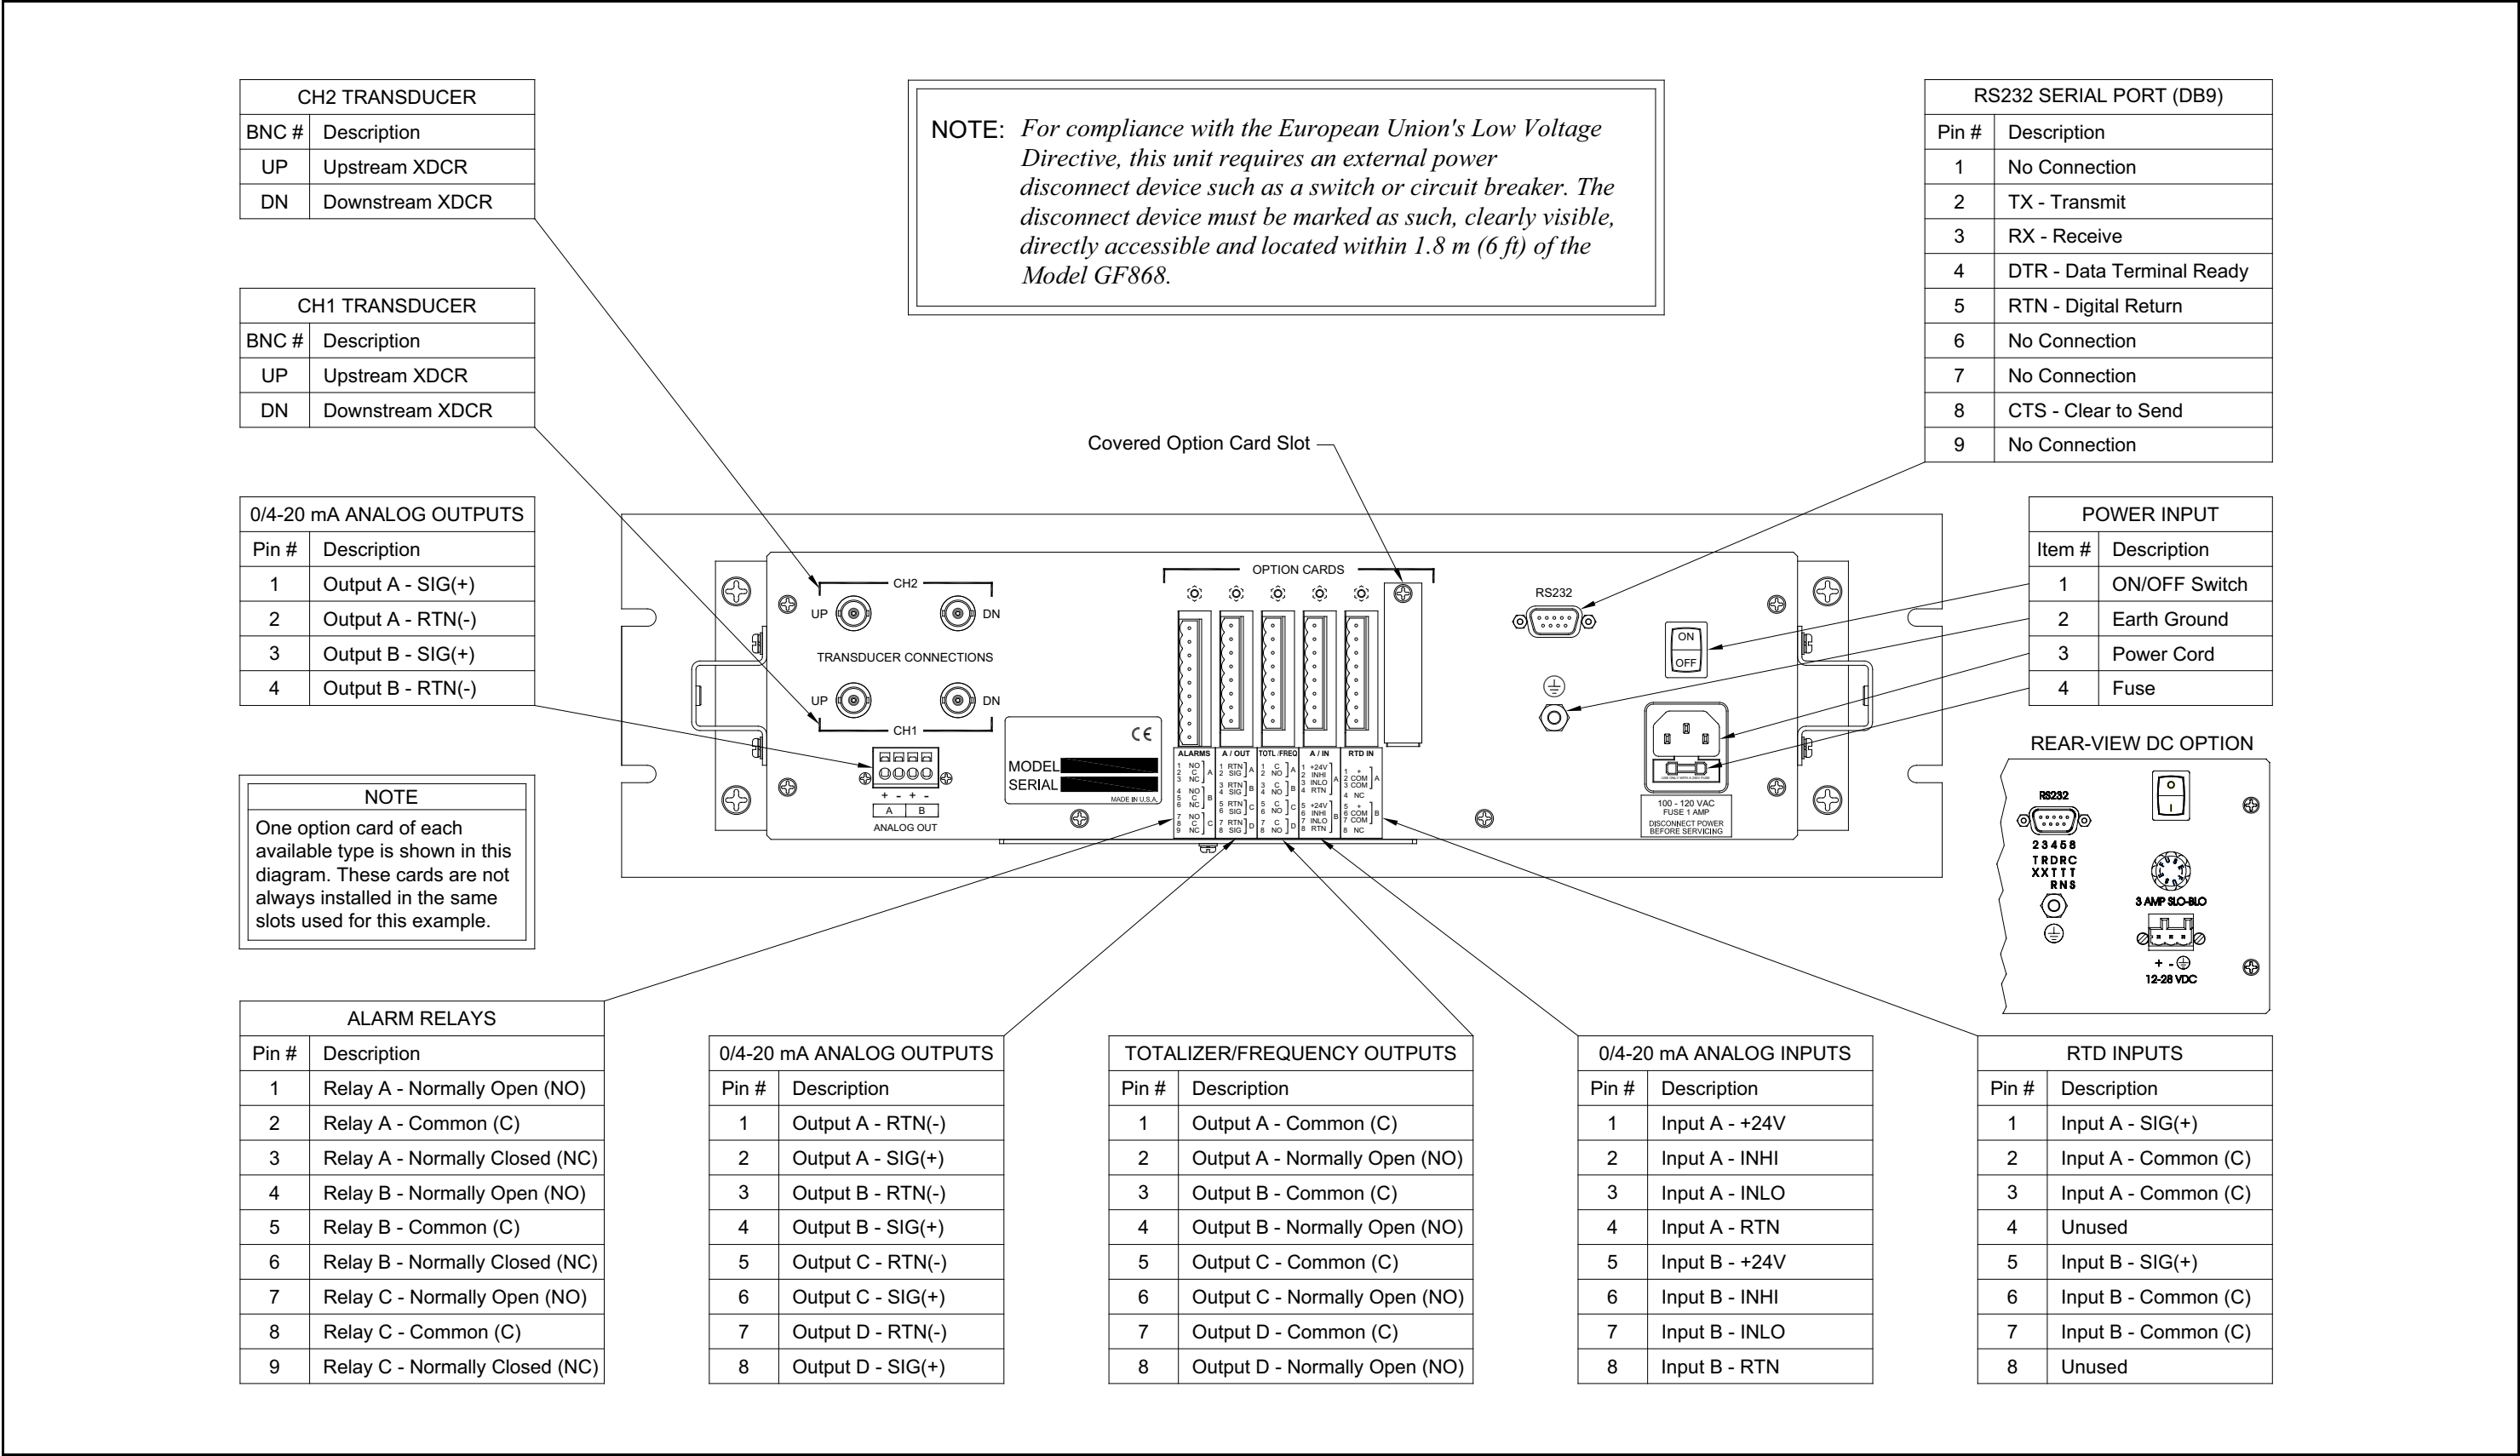

Figure 15: Model GF868 Rack Mount Enclosure - Wiring Diagram
The rack mount Model GF868 requires exactly the same electrical connections as the standard version. However, the locations and type of connectors used for the various components are different. Refer to Figure 15 on page 54 and complete the following steps:
- a. Purchase or prepare a suitable serial cable. This cable should have a standard female DB9 connector, wired as shown in Figure 15 on page 54, for connection to the rear panel of the Model GF868. The other end should be as required for the external device.
6. Wire any installed *option cards* using the same procedures described in Chapter 1, *Installation*, of this manual and the pin # assignments shown in Figure 15 on page 54.